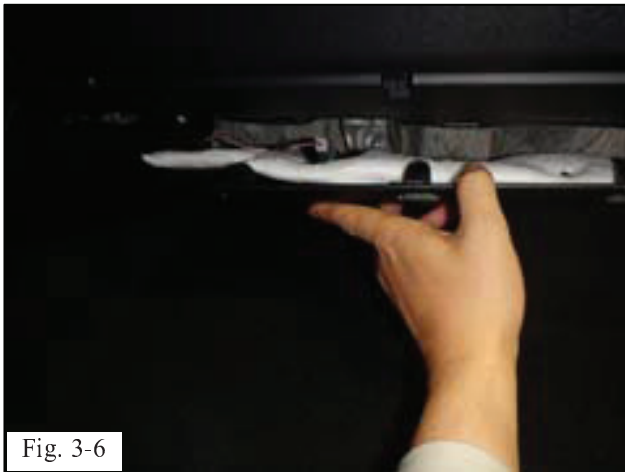

Fig. 3-6
(3) Pull down the lower dashboard panel cover (Fig. 3-6).